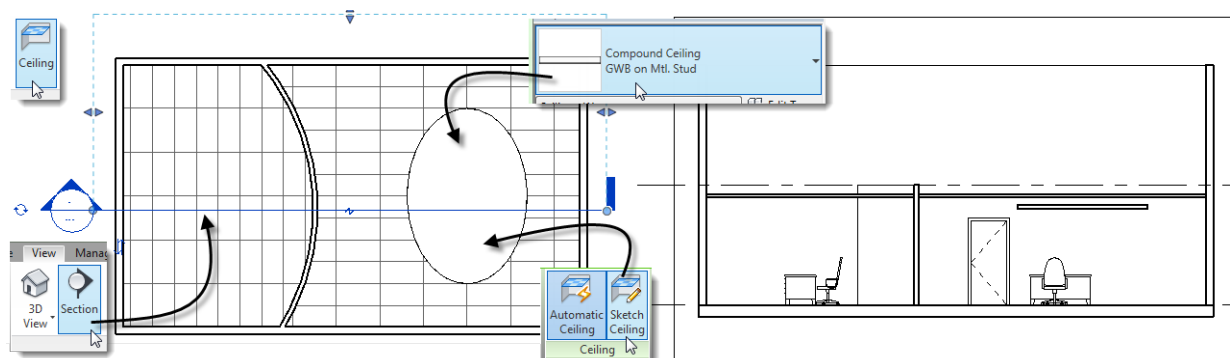

Figure 5 – Add a sketched ceiling
18. Right-click and choose: Go To View (see Figure 5).